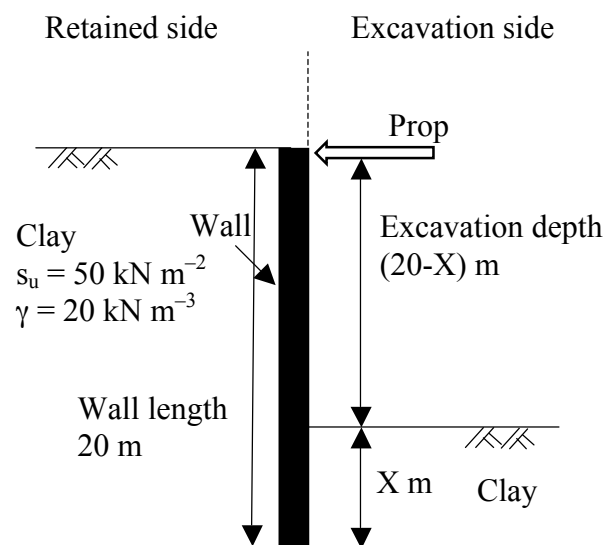

Fig. 4
3 A temporary retaining wall with a prop at the top is to be constructed in clayey soil as shown in Fig. 4. The undrained shear strength s_u of the clay is 50 kN m^{-2} and its total unit weight is 20 kN m^{-3} . The length of the wall is 20 m. There is a need to estimate the maximum excavation depth in undrained conditions. It is assumed that the friction between the soil and the wall is zero. Use the unit weight of water as 10 kN m^{-3} .
- (b) Estimate and plot the total horizontal stress profile acting on the soil below the excavation level when the excavation depth is $(20-X)$ m as shown in Fig. 4. [20%]